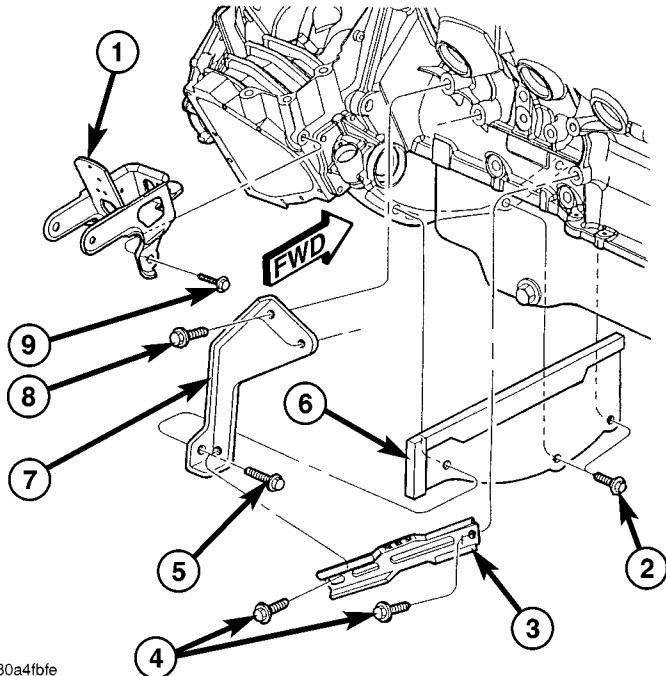

Fig. 101 Powertrain Struts and Transaxle Case Cover
- (1) Disconnect negative cable from battery and remove engine oil dipstick.
- (2) Raise vehicle on hoist and drain engine oil.
- (3) Remove drive belt splash shield.
- (4) Remove strut to transaxle attaching bolt (Fig. 101). Loosen strut to engine block attaching bolts.
- (5) Remove transaxle case cover (Fig. 101).
(4) Install cover to transaxle case (Fig. 101).
(5) Install the strut bolt to transaxle housing (Fig. 101). Tighten all bending brace bolts.
(6) Install the drive belt splash shield.
(7) Lower vehicle and install oil dipstick.
(8) Connect negative cable to battery.
(9) Fill crankcase with oil to proper level.